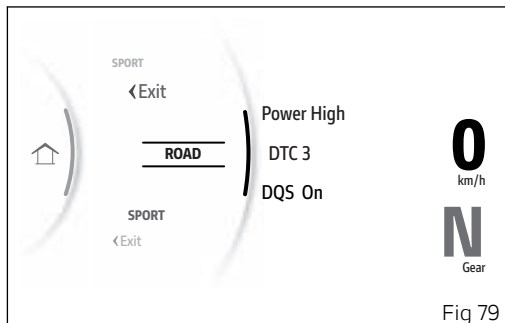

Fig 79
- Press and hold the MODE/ENTER button (3) for a long time.
- The dedicated screen (Fig 79) is displayed where, using buttons (1) and (2), it is possible to scroll through the available Riding Modes and display the parameters with the relevant set values.
- Press the MODE/ENTER button (3) to confirm.